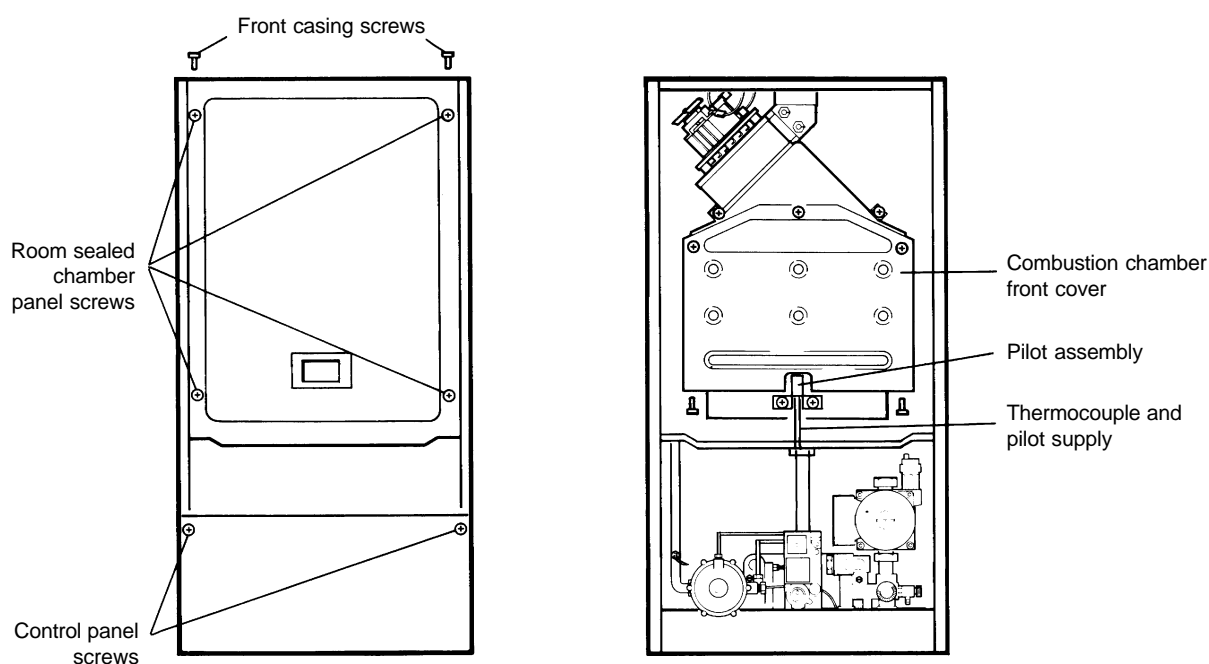

Fig. 18
7.2 PREPARE FOR SERVICING - Fig. 18
7. Check the condition of the pilot assembly, removing any carbon deposits from the thermocouple tip. Disconnect the pilot supply from the pilot burner, carefully withdraw it and remove the injector. Check the condition of the pilot injector and clean if necessary. Refit the pilot injector over the pilot supply and reconnect it to the pilot burner (see Fig. 18).